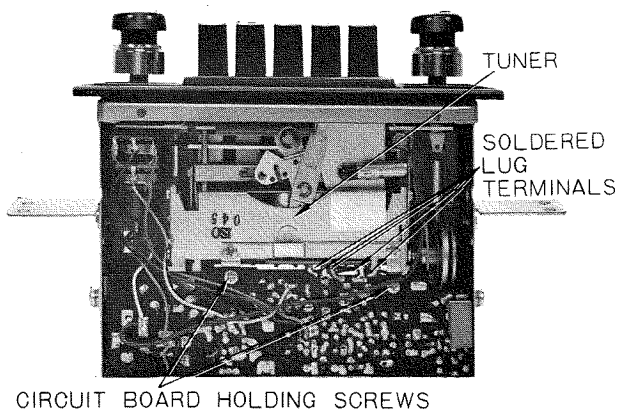

Fig. 7
2. Remove two screws holding circuit board and remove soldered lug terminals fixed to circuit board as shown in Fig. 7.